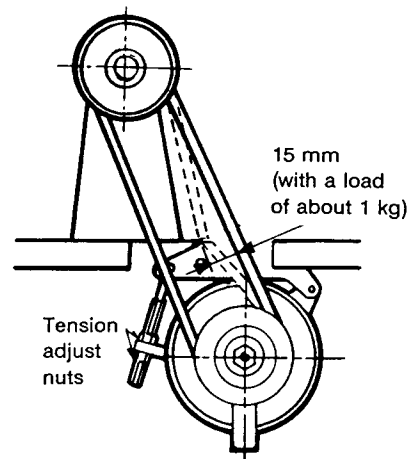

Fig. 21 Installation of Belt
2) Adjust the belt tension. Turn the upper and lower adjust nut of adjust bolt to change the center height of motor so that the belt can be warped about 15 mm. (Fig. 21)